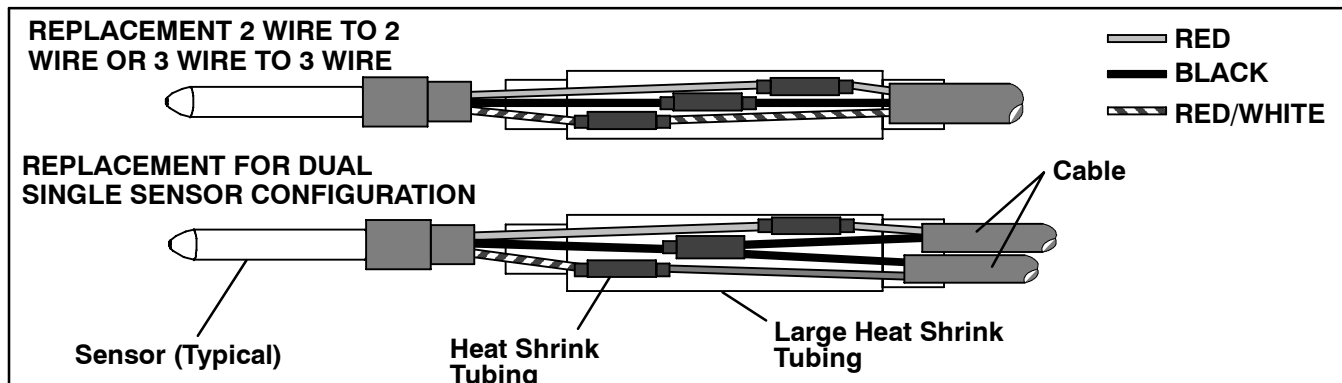

Figure 48. Sensor and Cable Splice
- Prepare the cables by cutting wires to the opposite of the sensor. (See Figure 48.)
- Slide a large piece of heat shrink tubing over the cable, and place small pieces of heat shrink tubing, one over each wire, before adding crimp fittings as shown in Figure 48.
- j. Slide heat shrink tubing over splice so that ends of tubing cover both ends of crimp as shown in Figure 48.